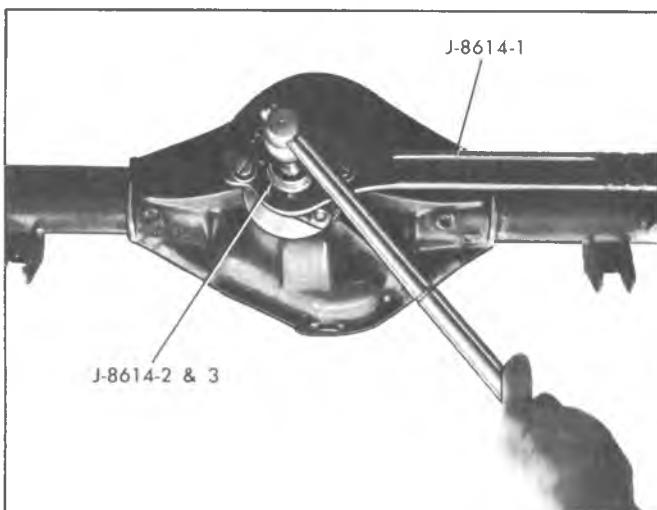

Fig. 5-Removing Pinion Flange
2. Install Tool J-8614-2, and 3 into holding bar as shown in Figure 5 and remove flange from drive pinion. Remove drive pinion from carrier.